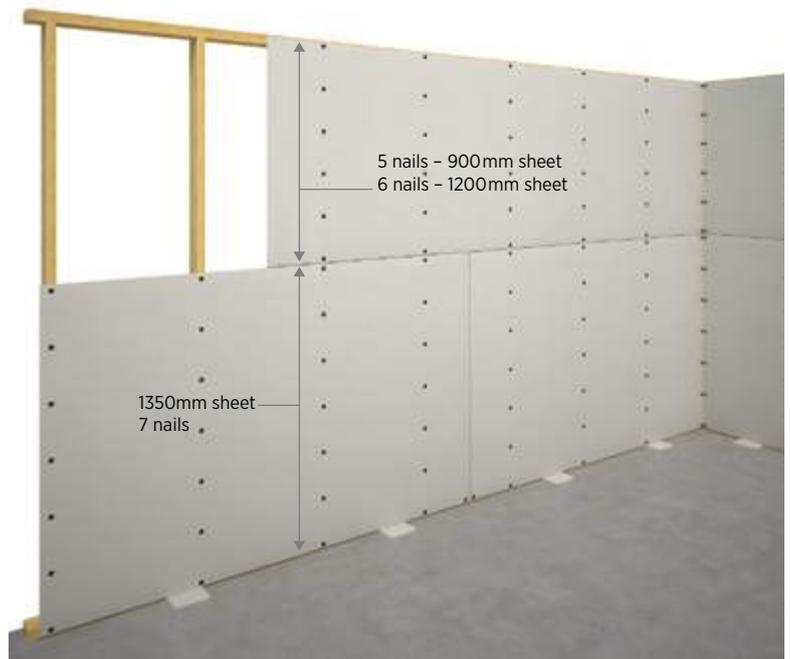

Figure 32: Nail fixing to walls (single nails)
- Refer Table 24 and Figure 32 for min number of nailing points per framing member.